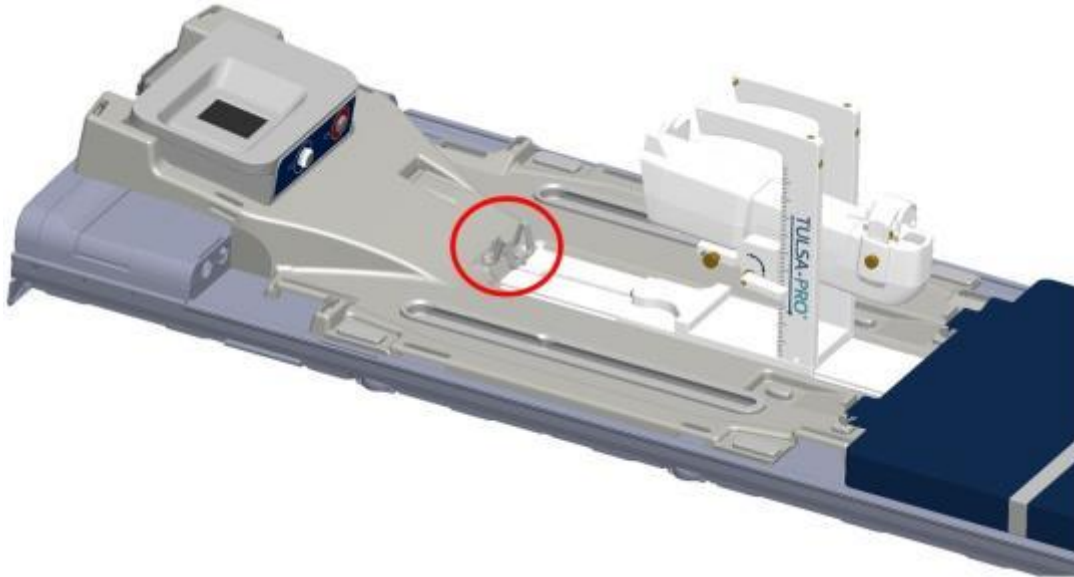

Figure 21: Secure the Positioning System using the latch on the base plate
2. **MRI Technologist:** Ensure that the slot for the PSIB is clear. Place the PS and PSIB in their respective slots on the base plate. Secure the Positioning System (PS) to its slot on the base plate between the patient's legs by closing the latch (*Figure 21*).